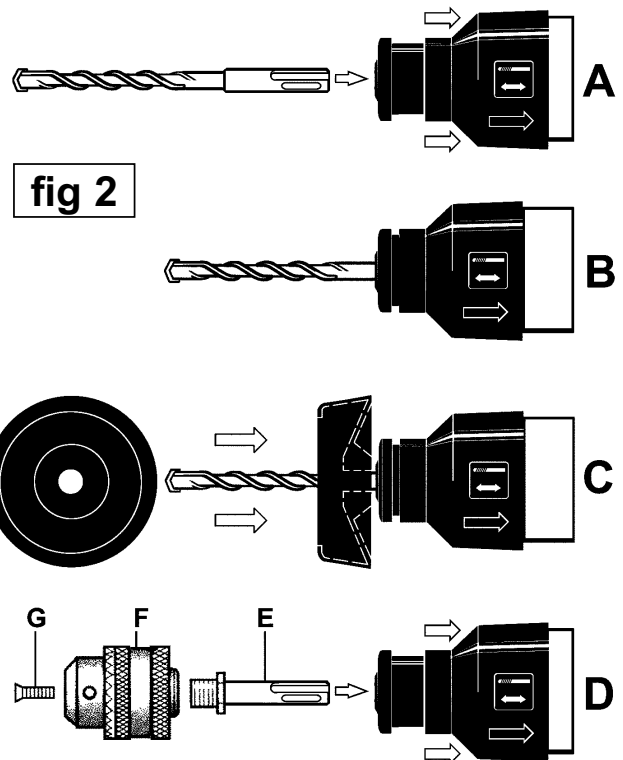

fig 2
COMPONENT LIST Figure 2.
3.1.2. Inserting a drill bit/chisel. Select an appropriate drill bit (or chisel) for the task. Check that it is clean and sharp. Lightly lubricate the shank of the bit, pull drill spindle lock (fig 2-A) back and hold. Insert bit into the spindle carrier and turn the bit until it drops fully into place. Release the spindle lock and check that the bit is firmly held in place (fig 2-B). To remove the bit pull back and hold the spindle lock and lift the bit out.
3.1.3. Fitting the dust cup. The dust cup (fig 2-C) is mainly used when drilling vertically upwards and will collect a proportion of the dust and debris generated that might otherwise enter the spindle lock or ventilation on the drill. To use the dust cup attach the appropriate bit and then push the cup onto the bit shaft. Ensure the cup bowl shape is facing toward the tip of the bit.
3.2. FITTING THE CONVENTIONAL DRILL CHUCK (See fig.2-D)
3.2.1. Fit the conventional drill chuck (fig.2-F) by screwing it onto chuck spindle (E). Open chuck jaws and lock the chuck with screw (G).
Keep the shanks of drill bits and chisels lightly lubricated. Periodically pull back the drill spindle lock and apply grease to the outside of the bit holder. (See fig.2-A) The hammer mechanism should be greased regularly depending on frequency of use. To access the lubrication area remove the six socket cap bolts (see fig.1-14) holding the black top cover in place (see fig.1-13). To aid easy removal and replacement of the top cover also loosen the two socket cap bolts holding the upper end of the handle (see fig.1-15) and ease it back slightly so that it no longer covers the rear edge of the black cover. Lift the cover off to reveal the mechanism taking care not to disturb the gasket that seals the lubrication area. Replace the grease with a fresh quantity from the tub of grease supplied. Carefully replace the cover ensuring that the gasket is properly seated and secure with the six socket cap bolts. Retighten the two bolts at the top of the handle. If these components are not correctly greased the drill may seize causing permanent damage, and invalidating your warranty.